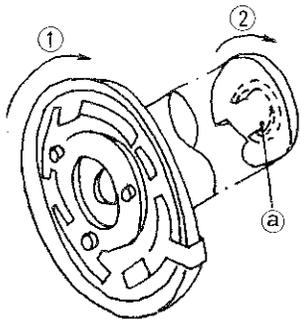
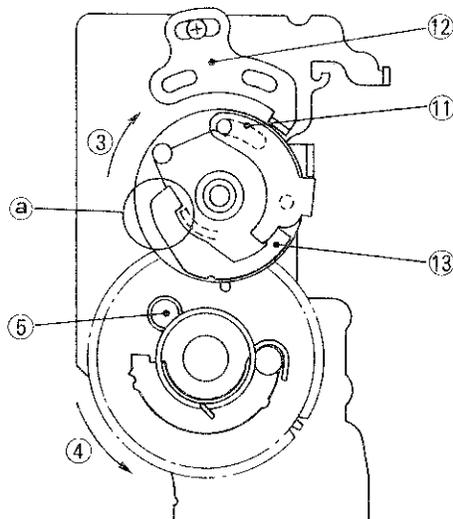

Fig. 8
Fig. 9
3. When clutch (3) (Fig. 9) receives a message from cams (1), (2) (Fig. 8), rotates in the arrow direction and it is set, part (h) (Fig. 10) of S clutch lever (A), (11) hits against part (i) of S clutch unlocking plate (12) and stops, and cam base plate (3) attempts to continue to turn, but (13) is disengaged from (11), and (2) cam coupling part (a) is separated from S clutch lever B (13), thus stopping the film advance.